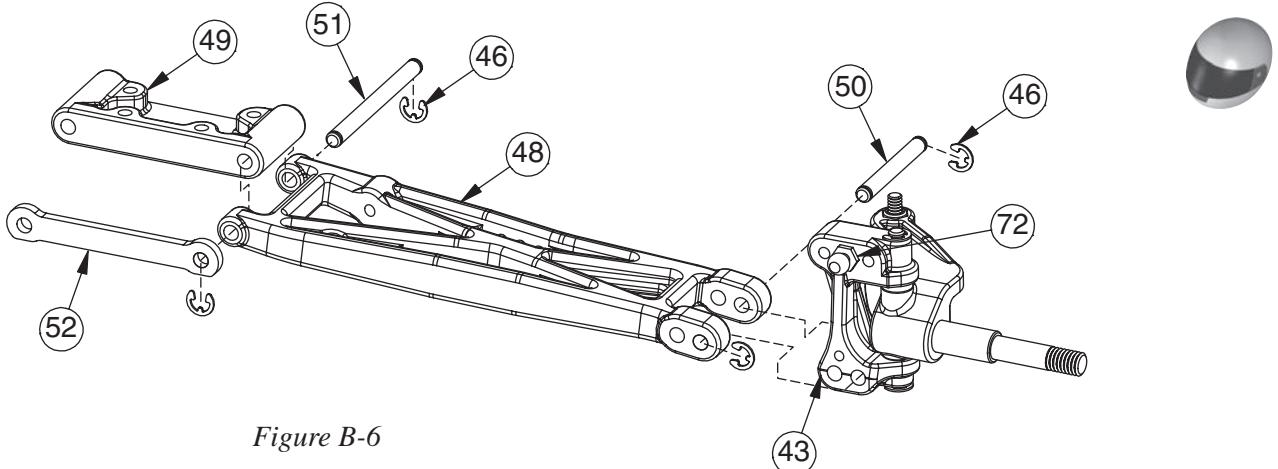

Figure B-6
- 1. Place the left Spindle and Carrier assembly (Figure B-6) into a front suspension Arm (48) as shown in Figure B-6. Note that the Spindle Arm faces the side of the suspension Arm with the Shock mount holes (rear) and the Ball Stud (72) in the Spindle Carrier is pointing forward. Line up the two sets of holes in the left Spindle Carrier (43) with the holes in the front Arm. Install a 1/8" E-clip (46) on one end of each 1/8" x .960" Hinge Pin (50) and slide it through the outer-most of the two holes in the Arm and Spindle Carrier. Attach a 1/8" E-clip to the other side of the Hinge Pin.
- 2. Install a 1/8" E-clip on one end of each inner 1/8" x 1.42" Hinge Pin (51).
- 3. Attach the Arm to the left side of the front Pivot Block (49) by inserting Hinge Pin from the back side, through the inside hole in the front Arm and Pivot Block, as shown in Figure B-6.
- 5. Slide the front Hinge Pin Brace (52) over both front inner Hinge Pins with the flat side pointing down. The E-clip grooves in both Hinge Pins should be exposed in front of the Brace. Secure the Brace by installing a 1/8" E-clip to the front of each Hinge Pin.